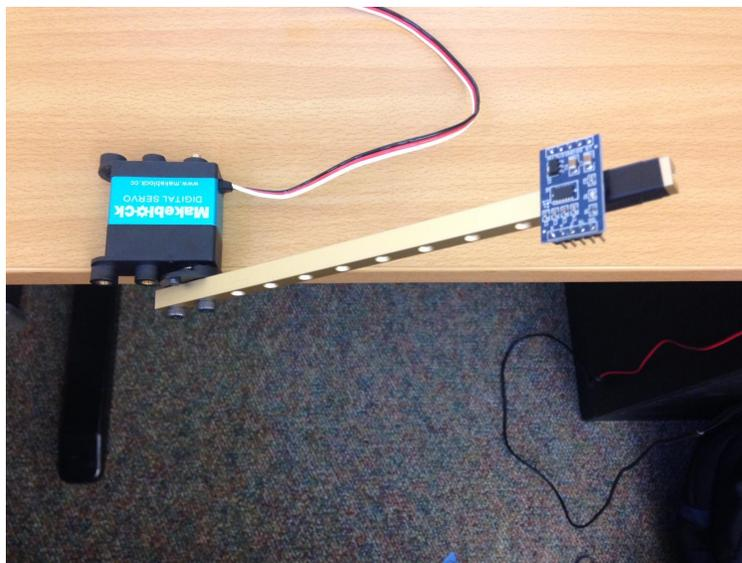

Figure 2: Accelerometer and Servo
2. Loot at Figure 2. Cover the steel bar with electrical tape to have a non-conductive part. Attach the accelerometer to the bar on the covered section.